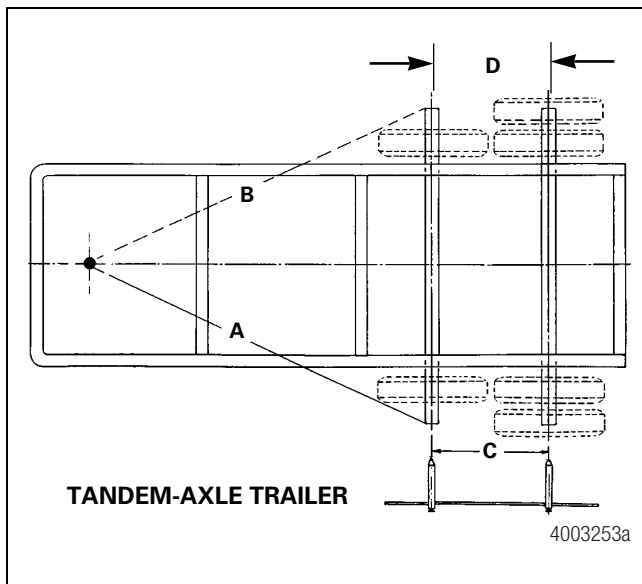

Figure 8.9
2. Measure "C" and "D", the distances between the front and rear axles on the trailer roadside and curbside. The difference between these dimensions must not exceed ± 0.03125 -inch (± 0.79 mm). Adjust the rear axle, if necessary, to bring this difference within specification. Figure 8.9.